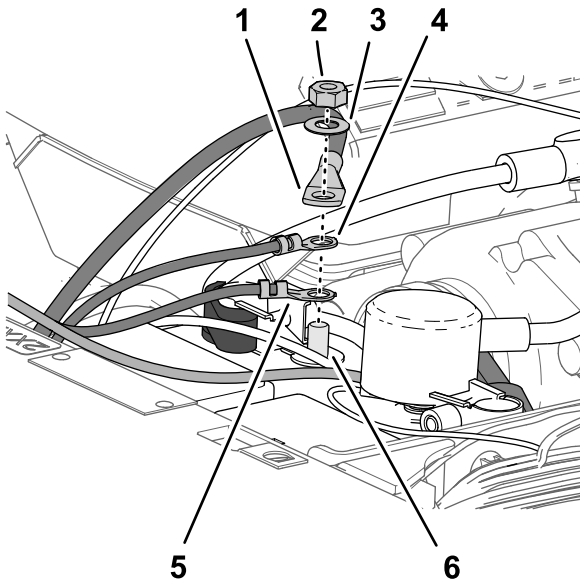

Figure 214
5. Assemble the following wire and cable terminals onto the threaded post of the negative battery terminal (Figure 214) in the following order: